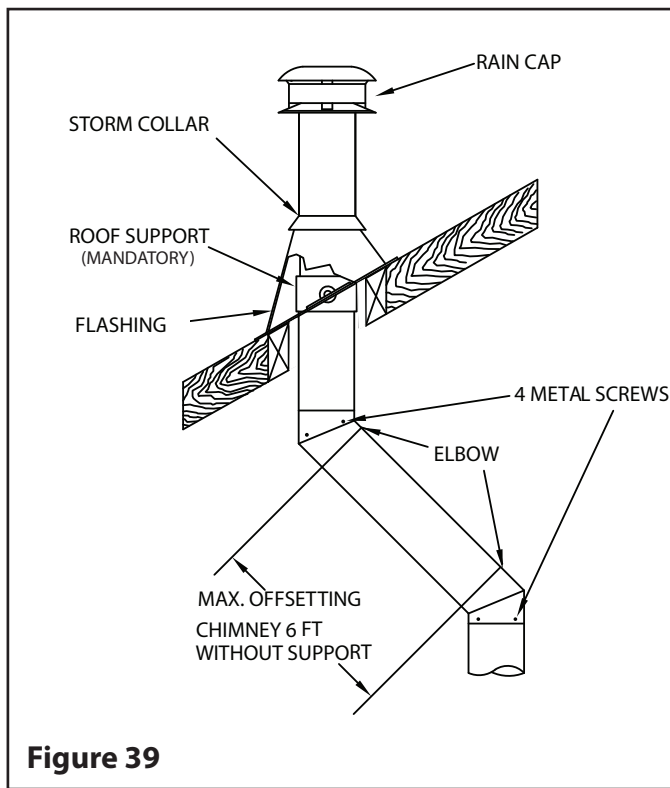

Figure 39
The maximum length of unsupported offset chimney is 6'. If the offset chimney is longer than 6', then it must be supported at 6' intervals using a ~~an~~ Wall Support (SO-2) or Roof Support (ST). (See **Figure 39**)